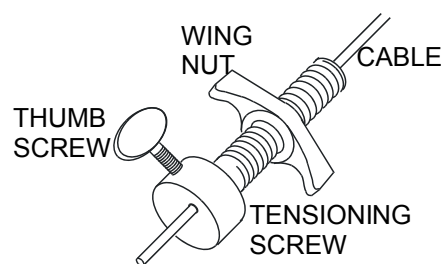

Figure 65
4. Feed each bare cable end into the hole at the threaded end of the cable tensioning screw (see **Figure 65**).
6. Whilst holding the cable tensioning screw in the box pull the cable taught and, without releasing the tension, tighten the thumb screw firmly (see **Figure 65**). Repeat this procedure with the other cable.